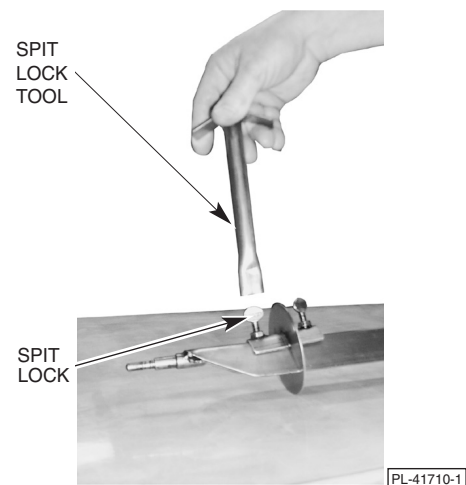

Fig. 23
- Install the optional spit locks (if desired). Place spit lock at end of spit and tighten with spit lock tool (Fig. 23).